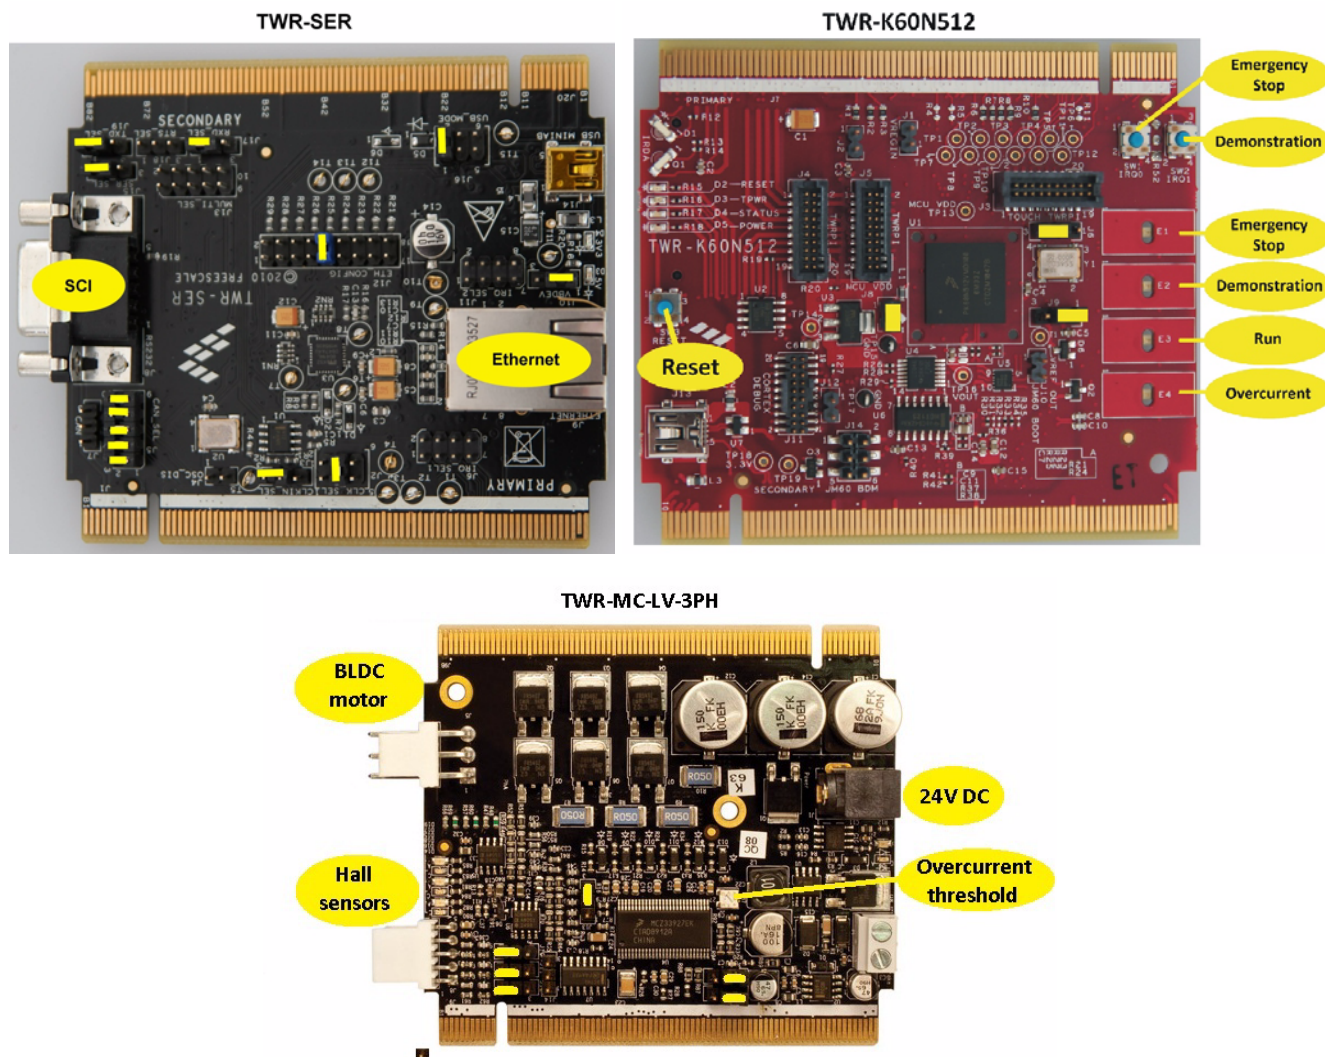

Figure 3. Jumper configuration
1. Jumper settings (board TWR-K60N512 REV C) (see Figure 3):
2. Jumper settings (board TWR-SER REV E) (see Figure 3):
3. Jumper settings (board TWR-MC-LV-3PH REV B) (see Figure 3):